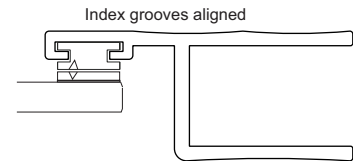

Fig. 16
- * Keep indexes on the same side, (Fig.16) peel off the red backing and apply the magnet to the vertical edge of the door panel. Trim at the top of the glass and trim the bottom off at the top of the Drip Assembly.